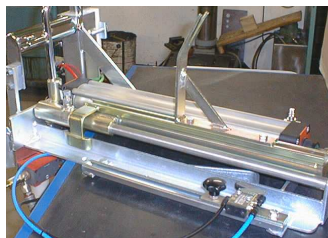

Figure 2. Adjustable end stop
- Stop valve figure 2. has to be adjusted in such a way that the hook stops right after the hind legs have been released. The valve can be moved horizontally by loosening the wing screw.